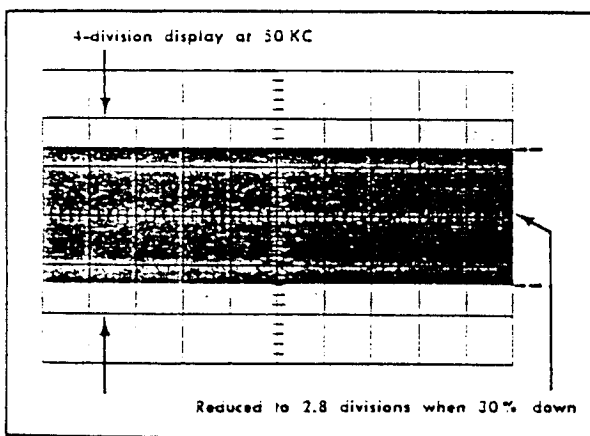

Fig. 6-29. Typical crt display when checking vertical frequency response.
d. Without changing the output amplitude, increase the output frequency until the display is reduced to 2.8 divisions (see Fig. 6-29).
i. Without changing the output amplitude, increase the output frequency until the deflection is reduced to 2.8 divisions (see Fig. 6-29).
n. Without changing the output amplitude, increase the output frequency until the deflection is reduced to 2.8 divisions (see Fig. 6-29).
s. Without changing the output amplitude, increase the output frequency until the deflection is reduced to 2.8 divisions (see Fig. 6-29).
x. Without changing the output amplitude, increase the output frequency until the deflection is reduced to 2.8 divisions (see Fig. 6-29).
ac. Without changing the output amplitude, increase the output frequency until the deflection is reduced to 2.8 divisions (see Fig. 6-29).
e. Without changing the output amplitude, increase the output frequency until the deflection is reduced to 2.8 divisions (see Fig. 6-29).
j. Without changing the output amplitude, increase the output frequency until the deflection is reduced to 2.8 divisions (see Fig. 6-29).